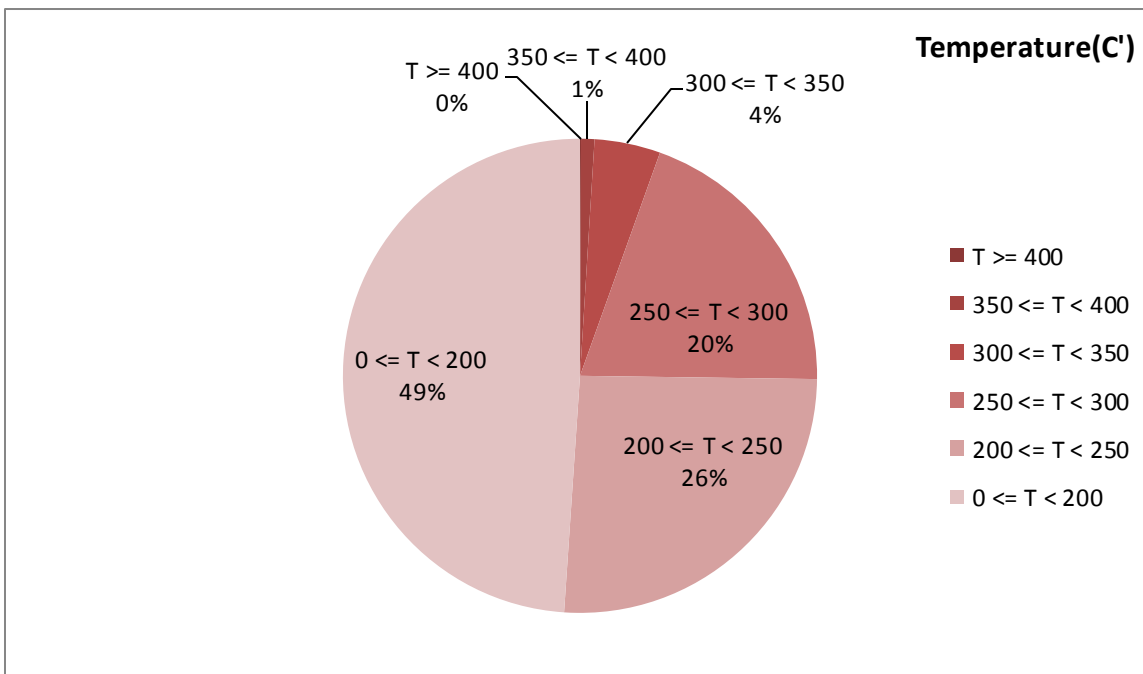

Figure 2-Temperature distribution over the working hours
- Figure 2 displays flow temperature distribution for DPF's upstream. It can be obviously observed that 1% of total working time temperature is above 350°C.